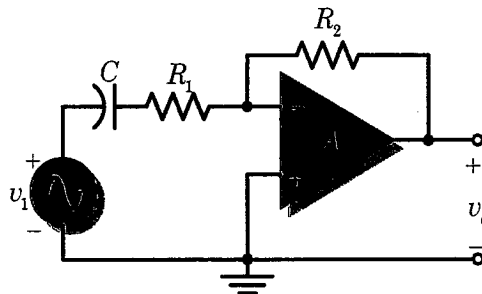

Figure Q4 (a)
(b) For the signals in Figure Q4 (b) (I):